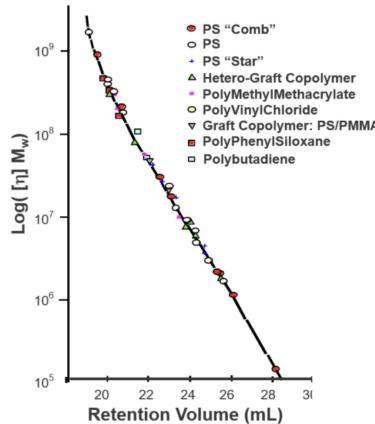

Figure 3.18: Universal calibration curve.
- It follows — assuming that the proportionality between $M[\eta]$ and V_r is independent of molecular structure — that if two species have the same retention volume, they have the same value of $M[\eta]$. This is how we are able to generate Figure 3.18, which maps every polymer to the same $\log(M[\eta])$ value based only on its V_r .